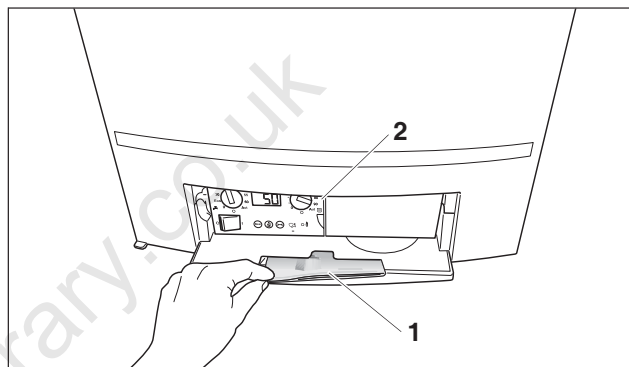

fig. 68 BC10 and User Manual
The BC10 basic controller is located on the left, behind the door (fig. 68, **item 2**).
The User Manual for the boiler is located in a compartment on the rear side of the door (fig. 68, **item 1**).